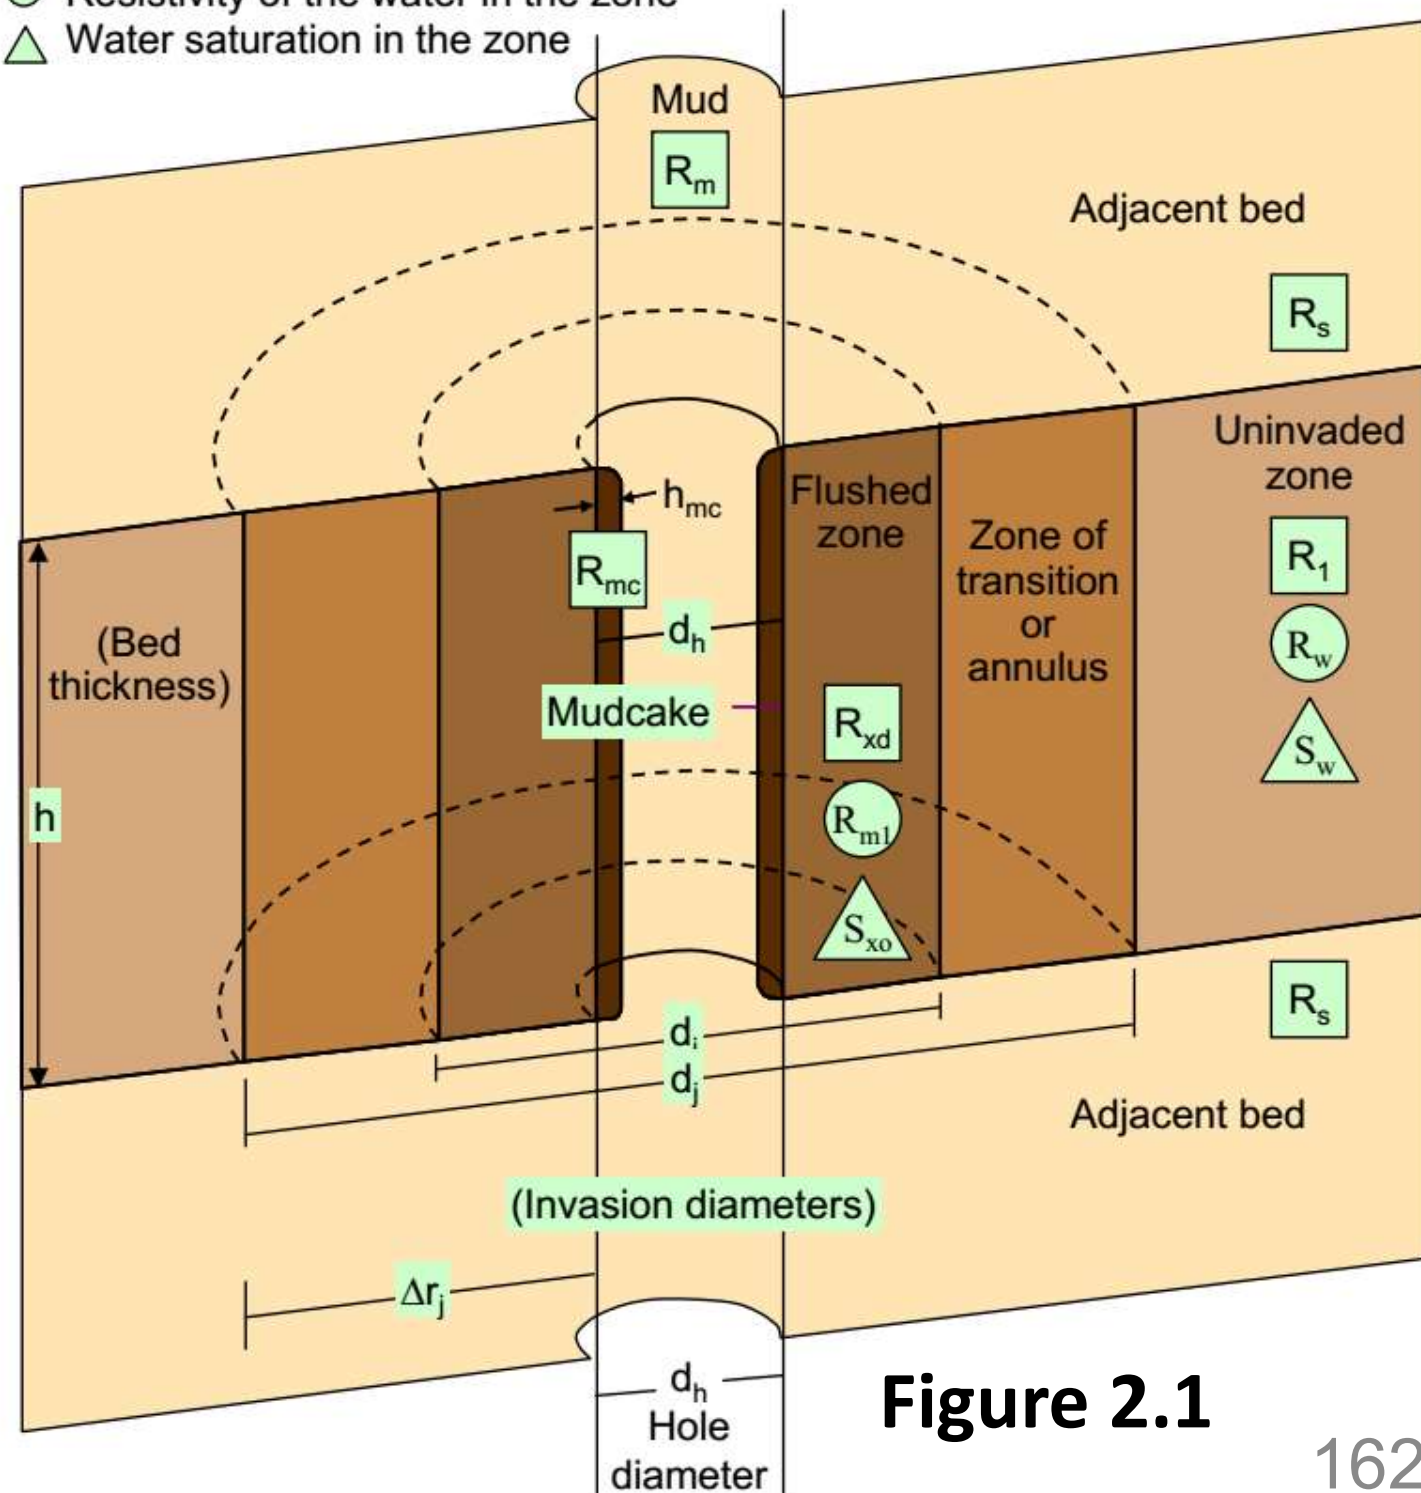

Figure 2.1
- The invasion is represented by the profile shown schematically in Fig. 2.1, along with the regions and parameters of interest, starting with the mudcake of thickness h_{mc} and resistivity R_{mc} .